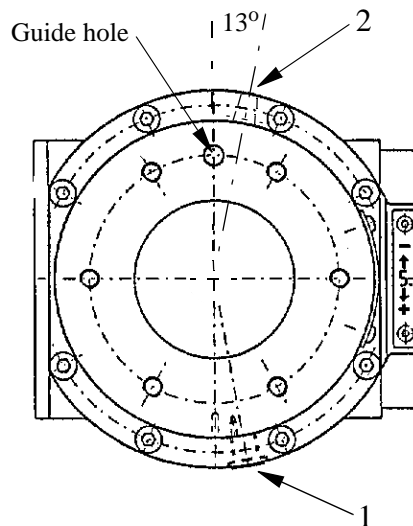

Figure 10 Greasing axis 6.
- Remove the plug from the drain hole (1). See Figure 10